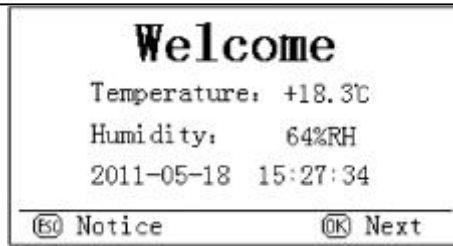

Figure 1
1. Test line connection is correct, turn the power switch on the front panel, the LCD screen appears in Figure 1 of the Welcome screen turned on, it displays the current temperature, humidity and time.
According to key functions can be operated below the screen prompts. In the interface of FIG. 1 or 2 press the ESC key,
9. After receiving the program data installation, you can transfer data, first instrument systems and computer connected with a 9-pin serial communication cable, turn the instrument power switch, power meter welcome screen appears, as shown in Figure 1. Then click the desktop Start menu, move the mouse to the program option under the Programs submenu select the Run this program data reception, data reception window pops up.